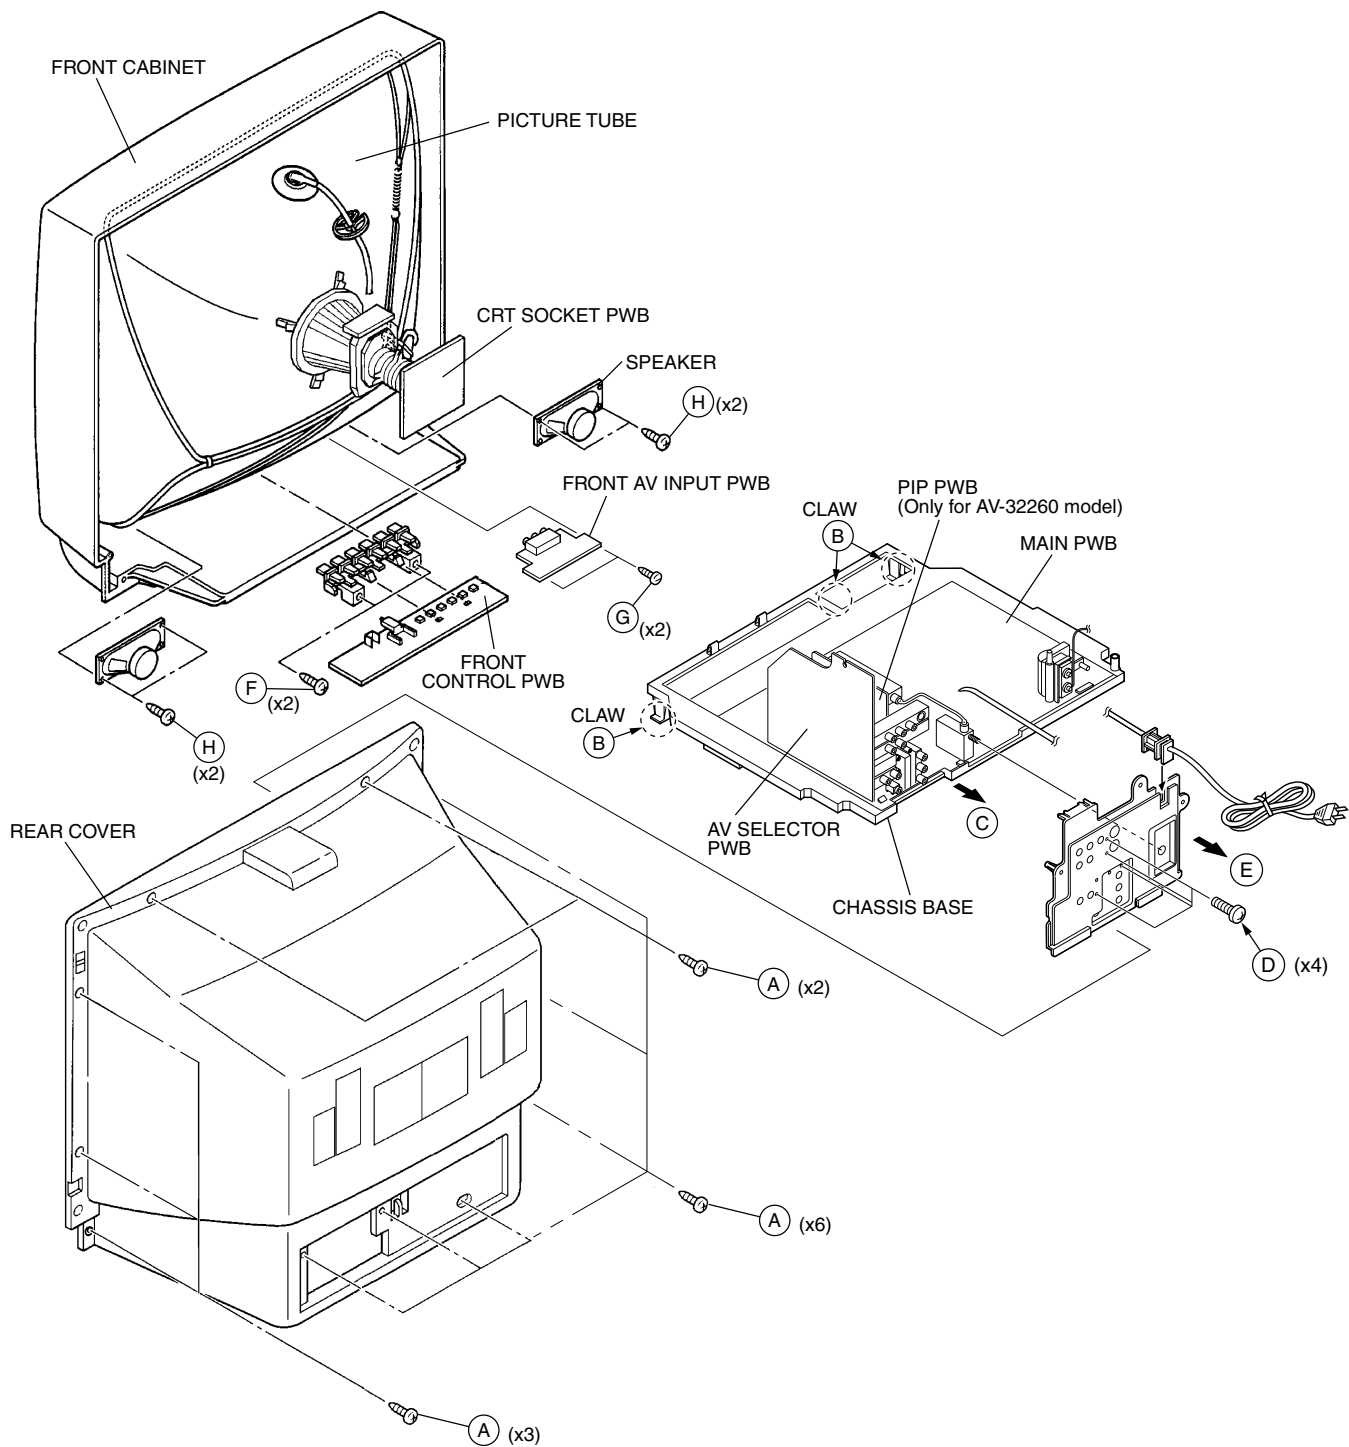
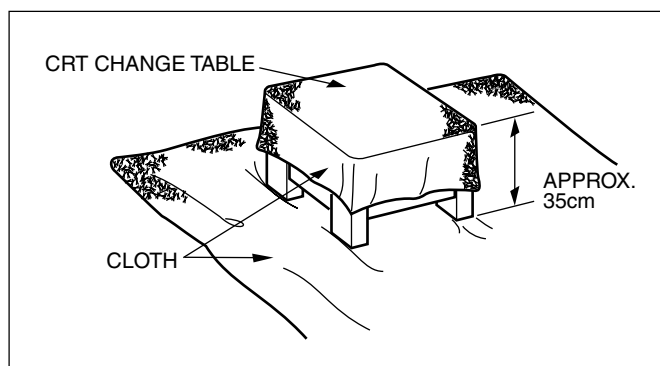

Fig.1
Fig. 2
2. Remove the 11 screws marked (A) as shown in Fig.1.
1. Slightly raise the both sides of the chassis by hand and remove the 3 claws marked (B) under the chassis from the front cabinet as shown in Fig.1.
2. Withdraw the chassis backward along the rail in the arrow direction marked (C) as shown in Fig.1.
1. Remove the 4 screws marked (D) as shown in Fig.1.
2. When you pull out the TERMINAL BOARD in the direction of arrow marked (E) as shown in Fig.1, it can be removed.
1. Remove the 2 screws marked (F) and the 2 screws marked (G) as shown in Fig.1.
1. Remove the 2 screws marked (H) as shown in Fig.1.
- 1. Putting the CRT change table on soft cloth, the CRT change table should also be covered with such soft cloth (shown in Fig. 2).
(1) Power off Switch off the power and disconnect the power cord from the outlet.
(2) Replace the memory IC Initial value must be entered into the new IC.
(3) Power on Connect the power cord to the outlet and switch on the power.
(4) System constant check and setting 1) Press SLEEP TIMER key and, while the indication of "SLEEP TIMER 0 MIN." is being displayed, press DISPLAY key and VIDEO STATUS key on the remote control unit simultaneously. 2) The SERVICE MENU screen of Fig.1 is displayed. 3) While the SERVICE MENU is displayed, again simultaneously press the DISPLAY and VIDEO STATUS keys to display the Fig.2 SYSTEM CONSTANT screen. 4) Refer to the SYSTEM CONSTANT table and check the setting items. Where these differ, select the setting item with the MENU UP/DOWN key and adjust the setting with the MENU LEFT/RIGHT keys. (The letters of the selected item are displayed in yellow.) 5) After adjusting, release the MENU LEFT/RIGHT key to store the setting value. 6) Press the EXIT key twice to return the normal screen.	 [AV-32230]
(5) Receive channel setting Refer to the OPERATING INSTRUCTIONS(USER'S GUIDE) and set the receive channels (Channels Preset) as described.	 [AV-32260] Fig.1
(6) User settings Check the user setting items according to Table 2. Where these do not agree, refer to the OPERATING INSTRUCTIONS (USER'S GUIDE) and set the items as described.
(7) SERVICE MENU setting Verify what to set in the SERVICE MENU, and set whatever is necessary.(Fig.1) Refer to the SERVICE ADJUSTMENT for setting.	 Fig.2